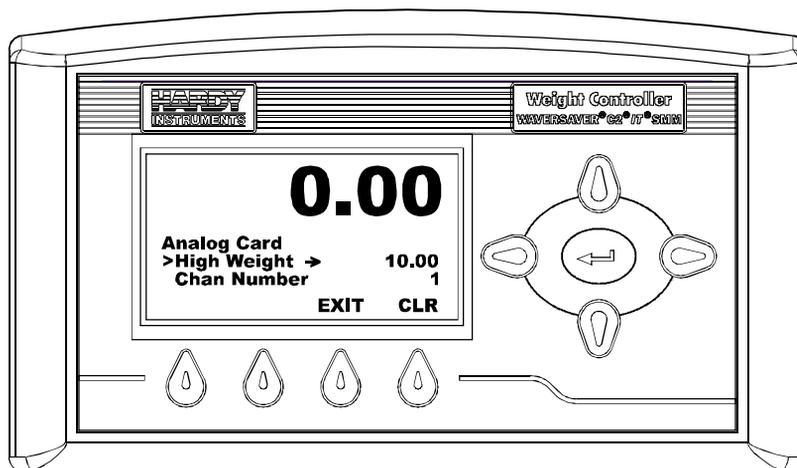

FIG. 155 ANALOG CARD/SELECTING HIGH WEIGHT
- Step 14. Press the Down arrow button until the cursor is in front of “High Weight”. (See Fig. 155)